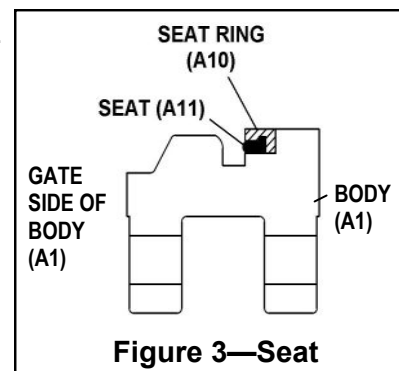

Figure 3—Seat
- a. Note the gate side and body side of the seat as shown in Figure 3.